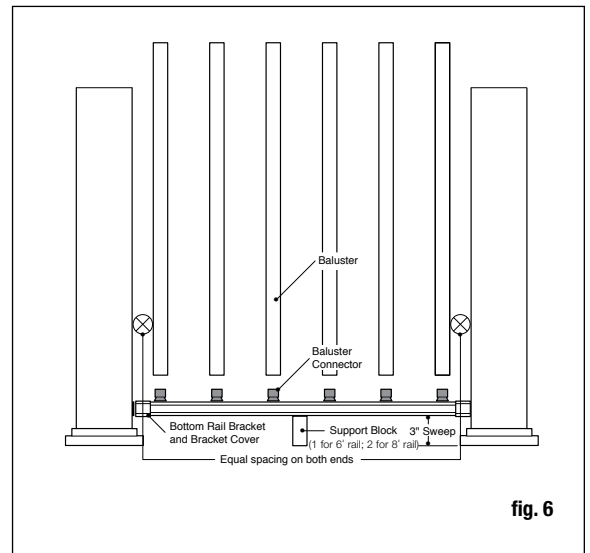

fig. 6
Step 6: Measure the distance between installed post sleeves to determine the length of the top and bottom rails. Place the bottom rail in position next to the posts and adjust so the distance between the first baluster connector and post is greater than 2" and equal on both ends (fig. 6). Mark the rail. Cut the bottom rail. Cut the top rail to the same spacing and length.
Step 8: Find the center of the underside of the bottom rail and attach the baluster connector included with the support block using the screw provided. Check building code requirements for the maximum spacing between deck surface and bottom of rail (sweep). We recommend 3", but it can be less if desired. If necessary, trim the support block to the determined height (fig. 6). One support foot is required for 6' line rail while two support feet are required for 8' horizontal rail or the stair railing will not be installed correctly.
Step 9: Place the horizontal rail bracket covers and line brackets on the ends of the bottom rail. Install the support block and prop the bottom rail between the posts using blocks cut to size. Check the rail for level. Using the horizontal bracket as a guide, mark the screw positions on the post sleeve and rail on both ends. Pre-drill 1/8" pilot holes through the post sleeve and rail. Attach the horizontal bracket to the post sleeve using the #8-15 x 2" - #2 square drive pan head screws and then attach line bracket to rail using #10-16 x 3/4" - #2 square drive pan head self-drilling screws (fig. 6).